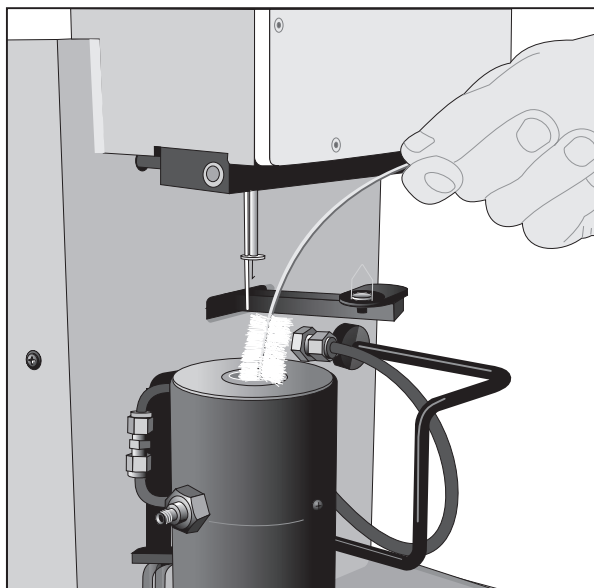

Figure D.9
5. Using a soft bristle brush (we recommend a flexible bottle brush), gently slide the brush up and down to clean out the inside of the furnace tube, allowing the handle to bend freely (see Figure D.9).